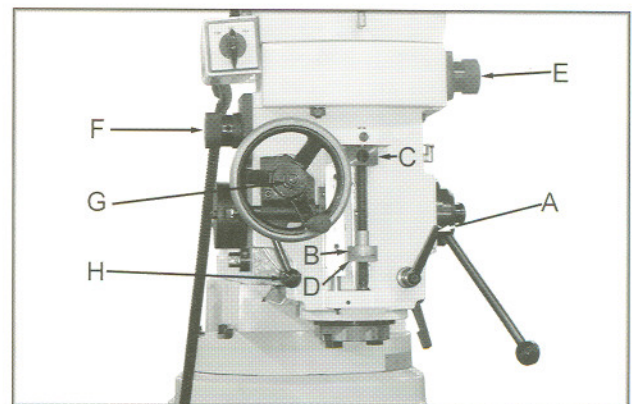

Fig. 9
2. Tighten the quill lock (A, Fig. 9).
3. Screw the micro nut (B, Fig. 9) against the quill stop (C, Fig. 9), and tighten the micro jam nut (D, Fig. 9).
4. Loosen the quill lock, and engage the power feed knob (E, Fig. 9).
5. Choose the downfeed rate (F, Fig. 9).
6. Engage the feed reversing knob (G, Fig. 9).
7. Engage the feed trip lever (H, Fig. 9).